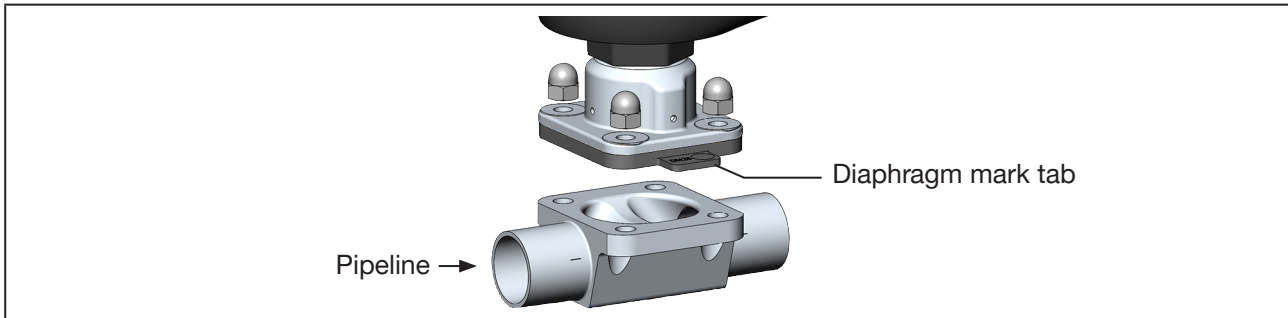

Fig. 101: Aligning the diaphragm (example 2-way body)
- The mark tab of the diaphragm must protrude from the valve body at a right angle to the longitudinal axis of the pipeline (see “Fig. 101”).
- Align diaphragm. The mark tab of the diaphragm must protrude from the valve body at a right angle to the longitudinal axis of the pipeline (see “Fig. 101”).
- ⚠ Before installing the actuator, check whether the diaphragm is free of damage and correctly aligned. The mark tab of the diaphragm must protrude from the valve body at a right angle to the longitudinal axis of the pipeline (see “Fig. 101”).